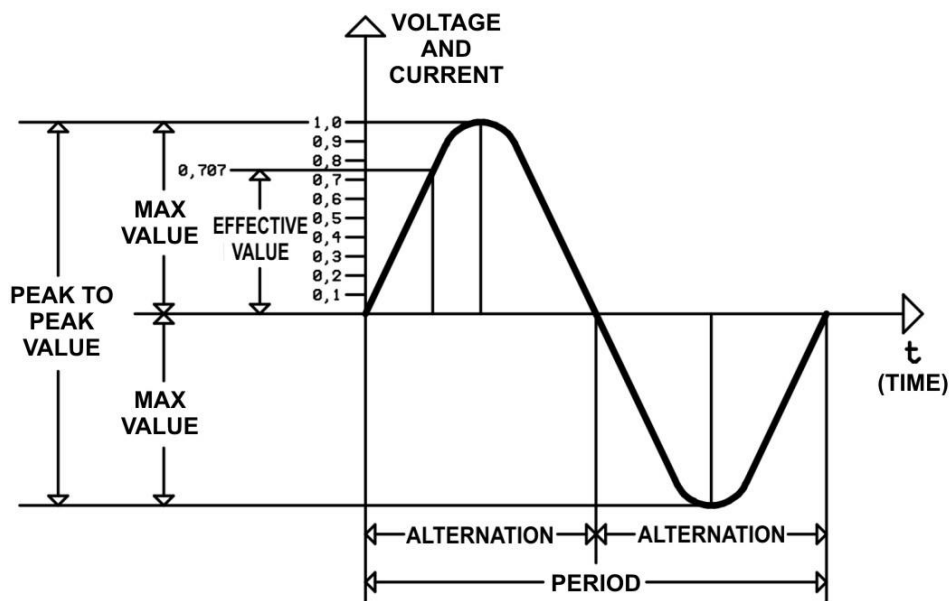

Figure 5
Alternating Current (AC): Electrical current which periodically reverses direction and magnitude. It is symbolized by "AC" (Alternating Current). Pendulum swing is an example of periodical move. Pendulum swing is from the midpoint and at equal distance to both sides. Half of the pendulum move is called "Alternation". A complete move of the pendulum consisting of two alternations is called a "period." A period is shown in figure 5.
City network, generators are the sources of alternating current. Magnitude of the alternating current also varies during the work time. The magnitude of AC at any moment is called "instantaneous value." Instantaneous value is shown by "e" for voltage and by "i" for current. Measurement devices measure the **effective value** of the AC. Effective value is also called **RMS (Root-Mean-Square)**. Effective value is the one we use in daily life. Effective value is shown by "E" for voltage and by "I" for current. The maximum value of an alternation is called "maximum value." Maximum value appears twice in a period: one in negative alternation and one in positive alternation. Maximum value is shown by "E_{max}" for voltage and by "I_{max}" for current. In the experiments of this book, mostly, the oscilloscope will be used. Oscilloscopes are the devices by which we can see and measure the electrical wave forms. "Peak to peak value" is the AC value which is the easiest one to measure by oscilloscope. Peak to peak value is the sum of two maximum values in a period. It is shown by "E_{pp}" for voltage and by "I_{pp}" for current. "pp" means **peak to peak**. Commonly used values for AC is shown in figure 5.